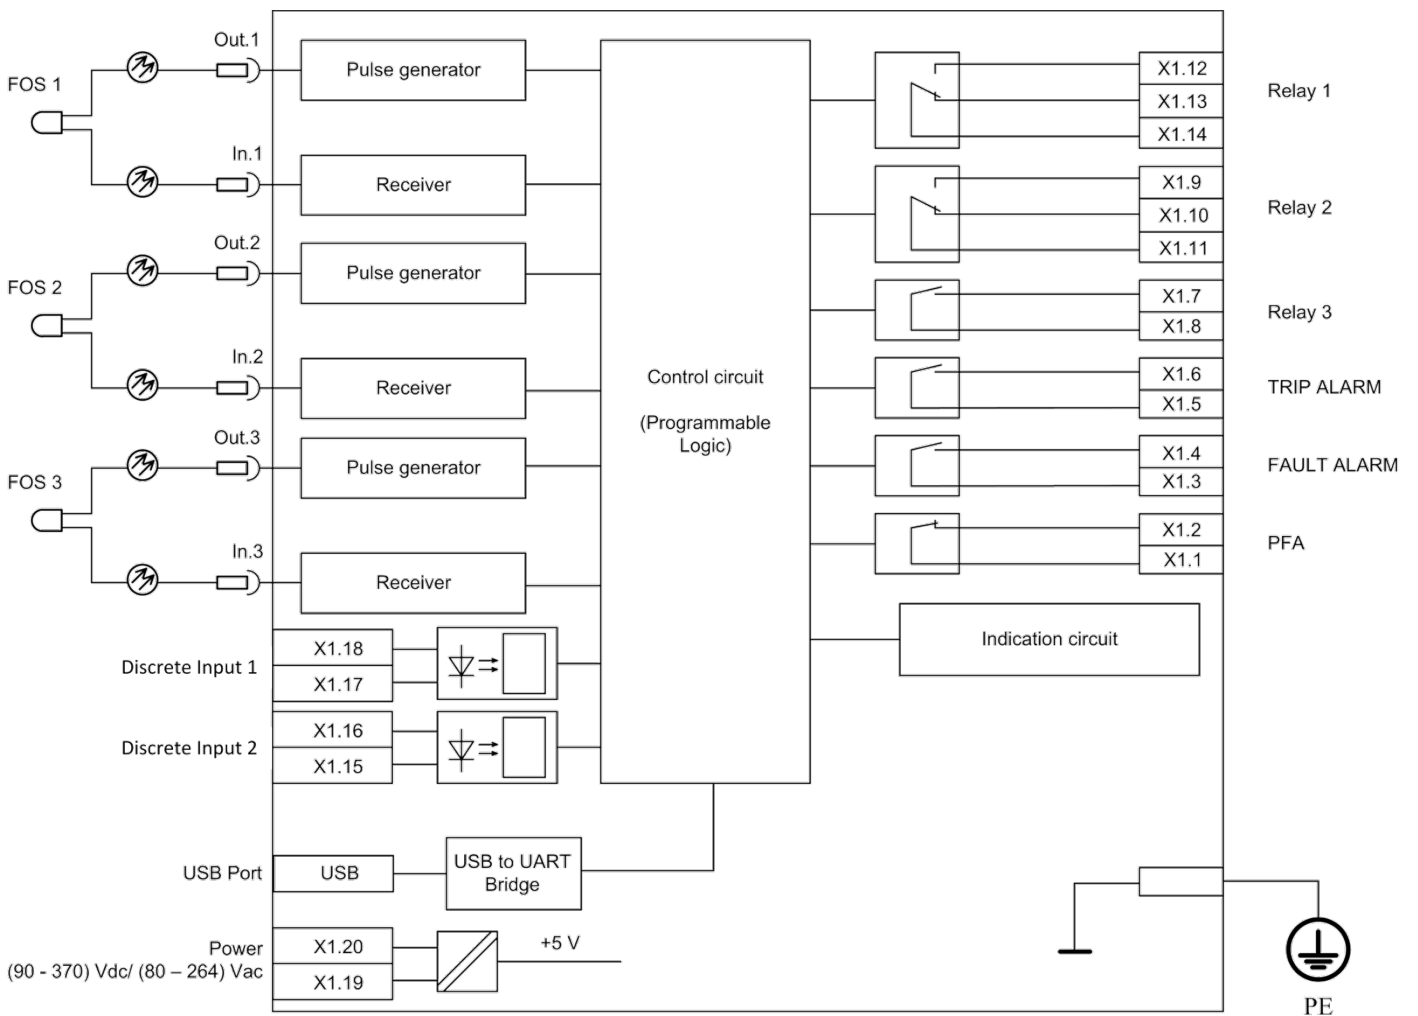

Figure 1.8 Block diagram of the device
Block diagram of the device is shown in Fig.1.8.
- X1 (no marking) – screw terminals for connecting the power circuits of the device, trip circuits and etc. On the contacts of connector X1 see the following signals (see Fig.1.8):